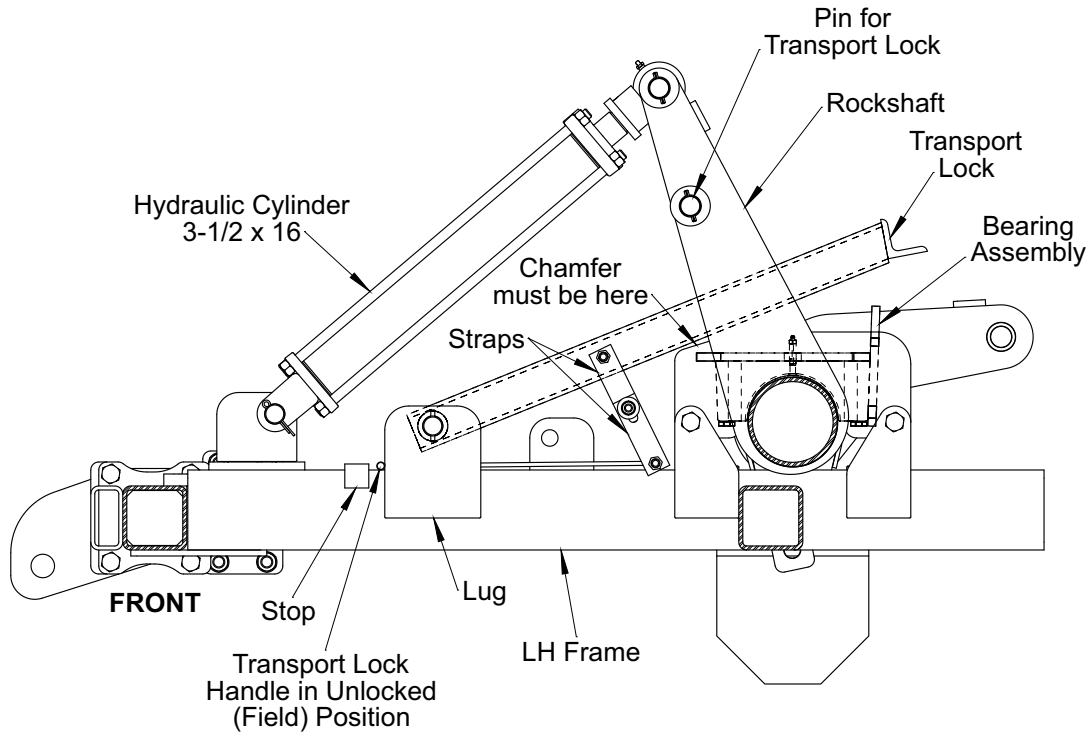

Figure 2-11: Transport Lock - Field Position
*When the Transport Lock Handle is moved to the Unlocked or Field position, the Transport Lock Angle should clear the Rockshaft Lower Pin. **See Figure 2-11.***